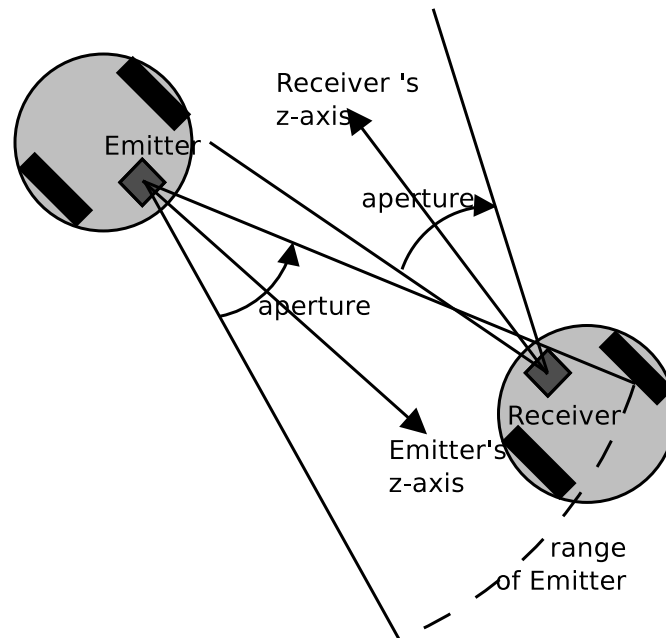

Figure 3.14: Illustration of aperture and range for "infra-red" Emitter/Receiver
- `aperture` opening angle of the emission cone (in radians); for "infra-red" only. The cone's apex is located at the origin ([0 0 0]) of the emitter's coordinate system and the cone's axis coincides with the z -axis of the emitter coordinate system. An "infra-red" emitter can only send data to receivers currently located within its emission cone. An `aperture` of -1 (the default) is considered to be infinite, meaning that the emitted signals are omni-directional. For "radio" and "serial" emitters, this field is ignored. See figure 3.14 for an illustration of `range` and `aperture`.